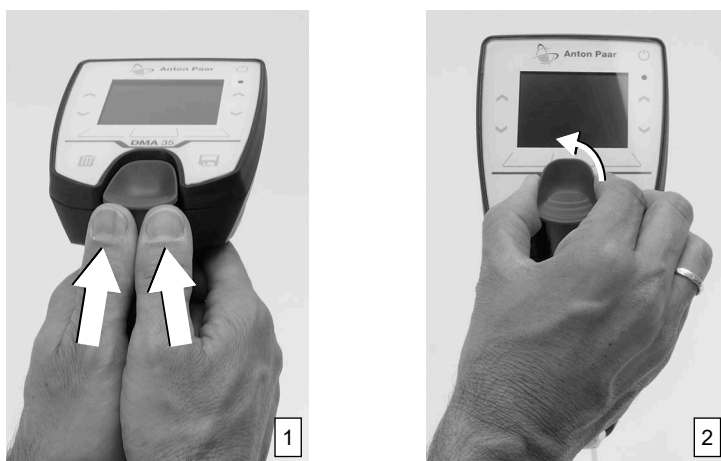

Fig. 11: Dismounting the pump
1. Push the pump lever upwards with both thumbs (see fig. 11).